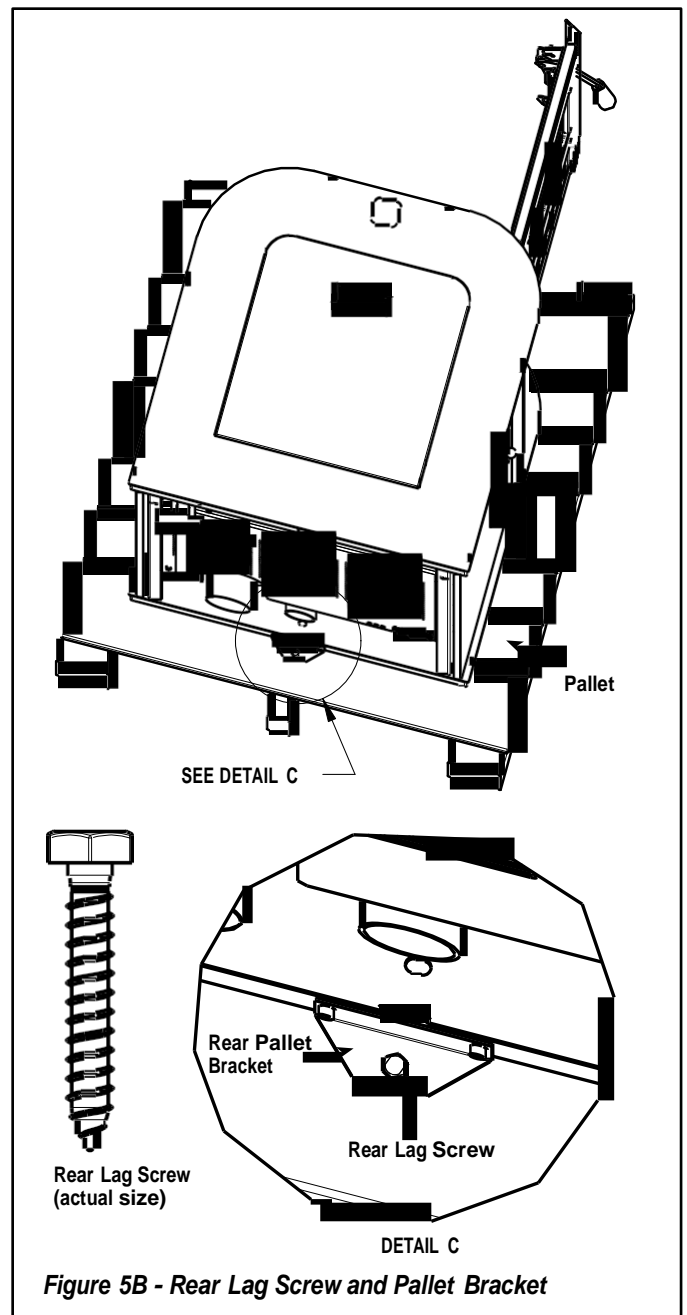

Figure 5B - Rear Lag Screw and Pallet Bracket
3. Using a 5/32" allen wrench remove the two screws in the rear pallet bracket (see **Figure 5B**). Using a 7/16" socket or open end wrench, remove the rear lag screw (see **Figure 5B**).